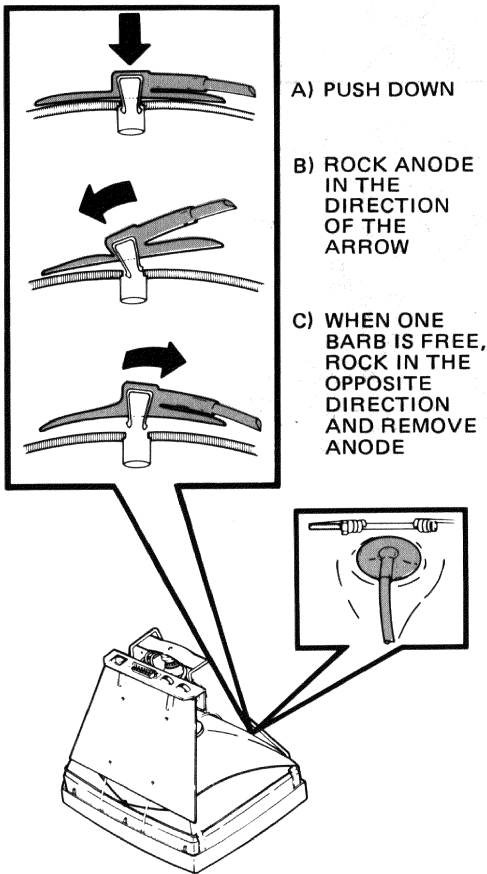

Figure 5-42 Anode Removal
11. Disconnect the anode wire from the CRT by pushing the anode further into its socket. Rock it from side to side and roll it out as shown in Figure 5-42.